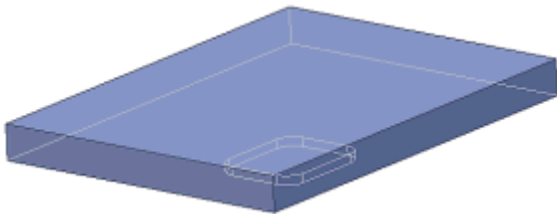

Figure 5: Reoriented view.
1. Use the Rotate tool to match the view in Figure 5.